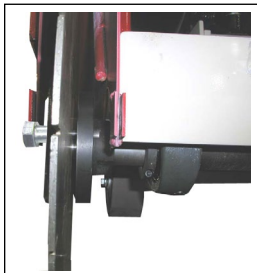

Figure 18
- Remove blade guard, blade retaining bolt and internal tooth lock washer. (Figure 18)